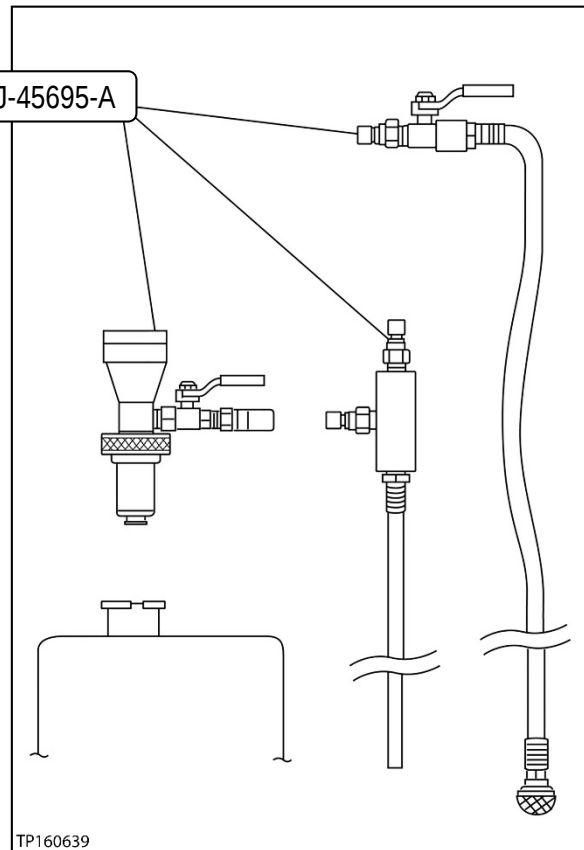

Figure 1
- Use Coolant Refill Tool J-45695-A (Figure 1), follow the tool's instructions.